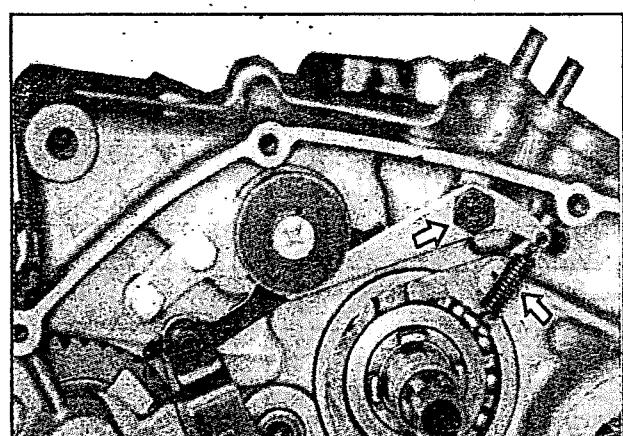

Fig 3.25
- Loosen the bolt and take off the cam stopper, spring and washer (fig 3.25)